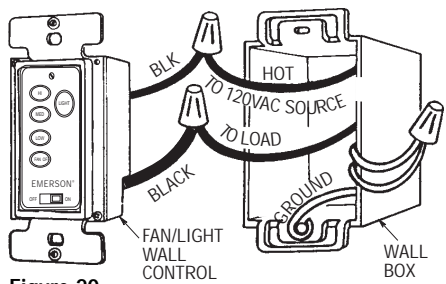

Figure 20
- 4. Connect one black wire of wall control to the "hot" wire. Securely connect wires with wire connectors supplied (Figure 20).